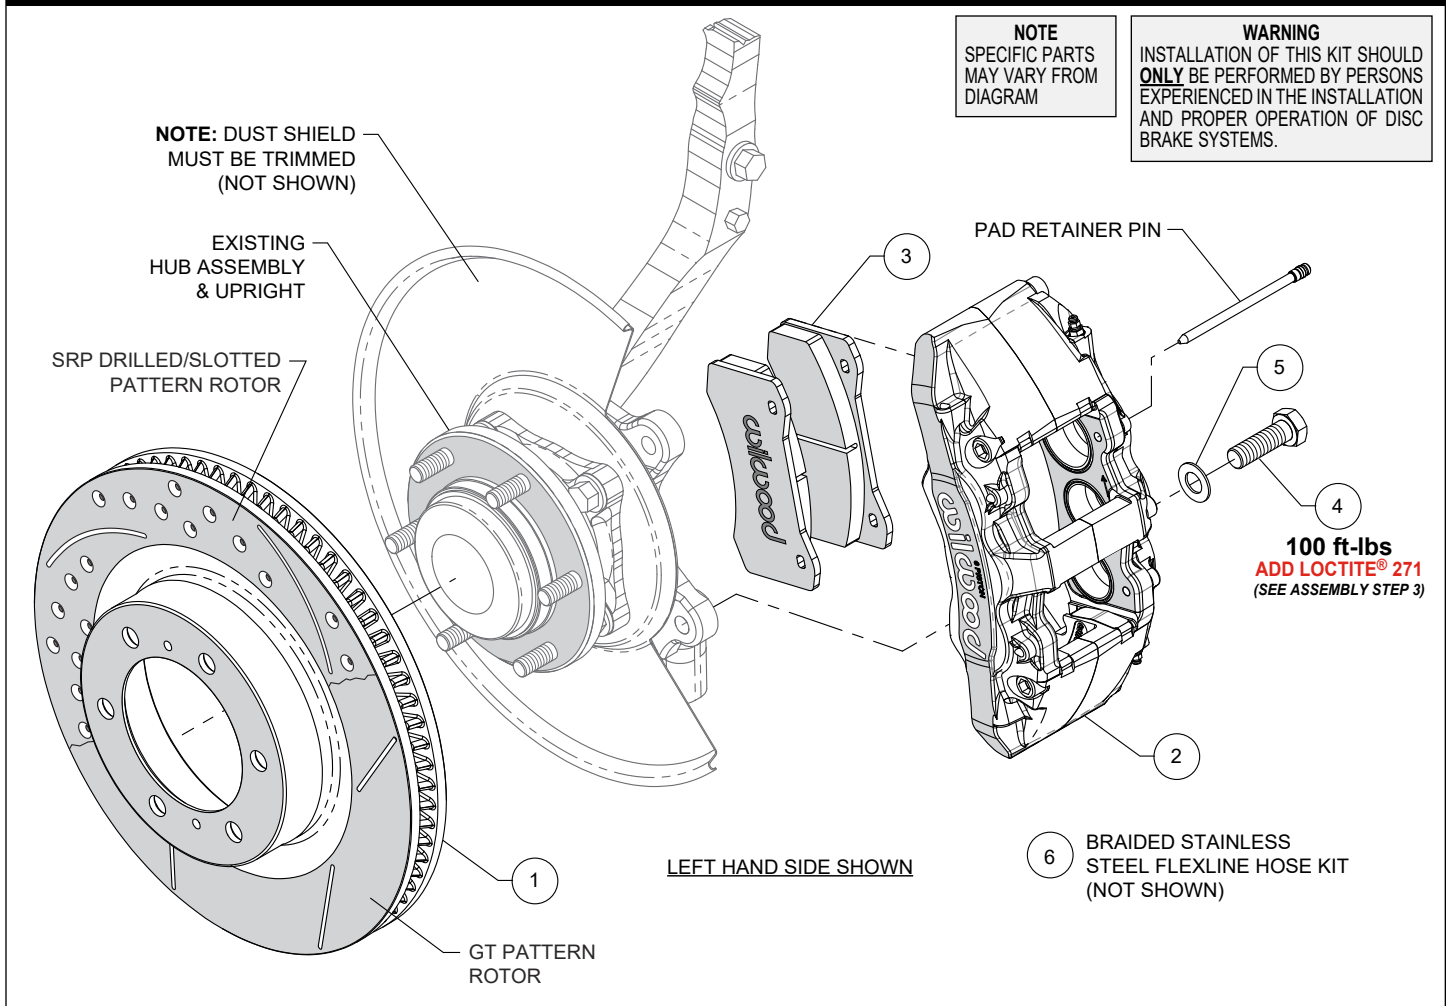

Figure 1. Typical Installation Configuration
Numbers in parenthesis refer to the parts list and Figure 1 on the preceding pages.
STEP 1 Slide the rotor (1) onto the hub. **NOTE:** The rotor must fit flush against the hub flange or excessive rotor run out may result. Install three lug nuts (finger tight) to keep the rotor in place while continuing with the installation, Photo 1.
STEP 2 Remove the two pad retaining pins from the caliper (2), Figure 1. Insert the brake pads (3) into the caliper, with the friction material facing the rotor, as shown in Photo 2. Secure the brake pads in place with the pad retaining pins, Photo 3 and Figure 1.
STEP 3 **NOTE:** This kit contains distinct right and left hand calipers that must be mounted in a specific direction, as described below. Ensure that the caliper is mounted so the largest pistons are at the rotor exit end of the caliper, in relation to the forward direction of the rotor. Mount the caliper (2) onto the OEM caliper mounting bosses of upright using bolts (4) and washers (5), as shown in Figure 1. Apply red *Loctite*® 271 to bolt threads, and torque to value shown in Figure 1.
STEP 5 Attach brake line to caliper. **NOTE:** OEM rubber brake hoses generally cannot be adapted to Wilwood calipers. Install Wilwood's braided stainless steel flexline hose kit (6) that is included with this kit. The caliper inlet fitting is a 1/8-27 NPT. Use the